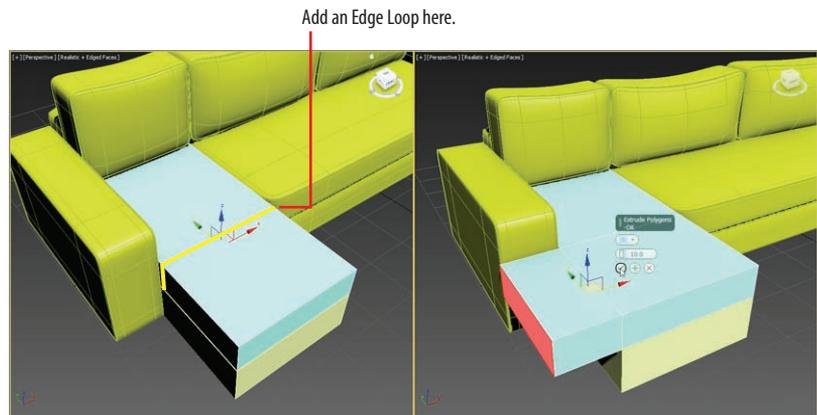

FIGURE 4.12 Use SwiftLoop to add an edge loop on the chaise cushion box (left). Extrude the new polygon that was created from adding the new loop (right).
- In the Edit panel, select SwiftLoop and place a new edge loop on the box, as shown in Figure 4.12 (left). Right-click to release the SwiftLoop tool.
- In the Polygons panel, select Extrude Settings, set the height to 10.0, and click OK, as shown in Figure 4.12 (right).